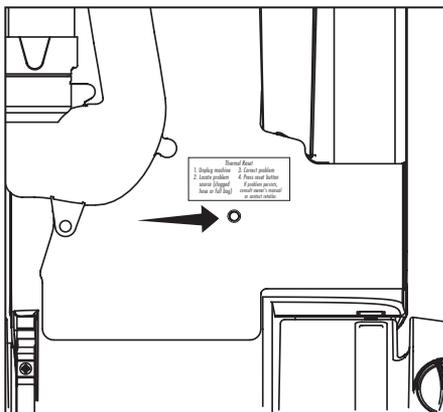

Fig. 2
- Locate the Thermal Motor Protection Reset Button on the back of the vacuum (Fig. 2). Press the button and resume vacuuming.